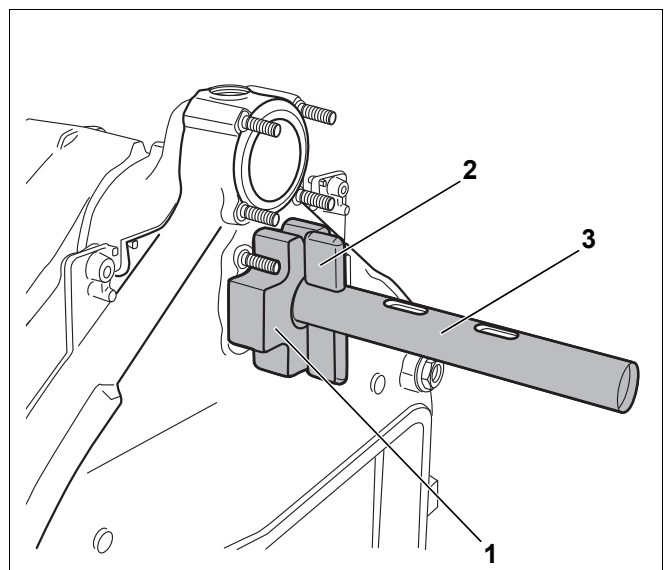

Fig. 15 Boiler compression tool at the rear section
- Push additional pull flanges onto both pull rods (→ Fig. 15, [3]) at the back of the boiler (→ Fig. 15, [1]) and secure each with a wedge (→ Fig. 15, [2]) or cylindrical pin (for compression tool 2.2).